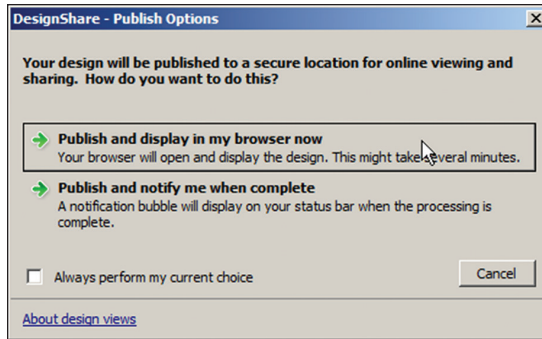

FIGURE 14.28 DesignShare – Publish Options
- You are prompted to select whether you want to launch your browser now and wait for the file to upload or be notified with a bubble in the lower-right corner of AutoCAD's user interface when the upload is complete. Choose Publish And Display In My Browser Now (see Figure 14.28) and wait a few moments for the small file upload to complete.